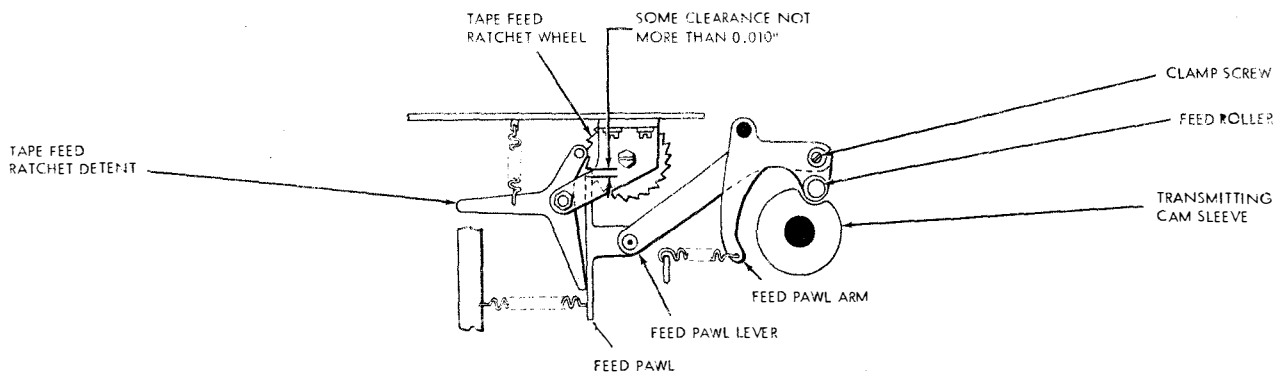

Figure 7-99. Feed Pawl Lever
(34) **FEED PAWL LEVER.** (See figure 7-99.)—When the transmitting cam sleeve is in its stop posi-